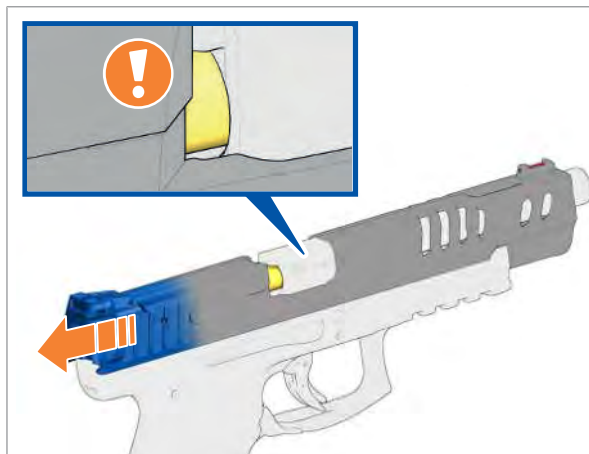

Fig. 51: Pull slide back
1. Pull the slide back until you can tell whether there is a round in the chamber (*Fig. 51*).